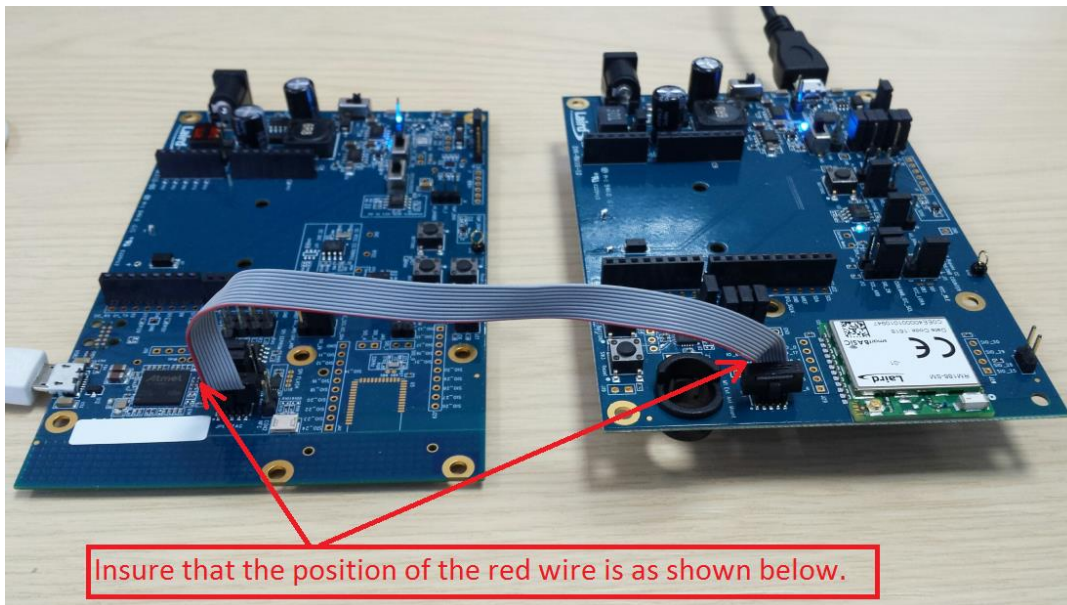

Figure 6: Connecting the programmer board to an RM186 development board
2. Using the supplied ribbon cable, connect the QPK-NRF5X (the programmer board) to the DVK-RM186 development board as shown in Figure 6.